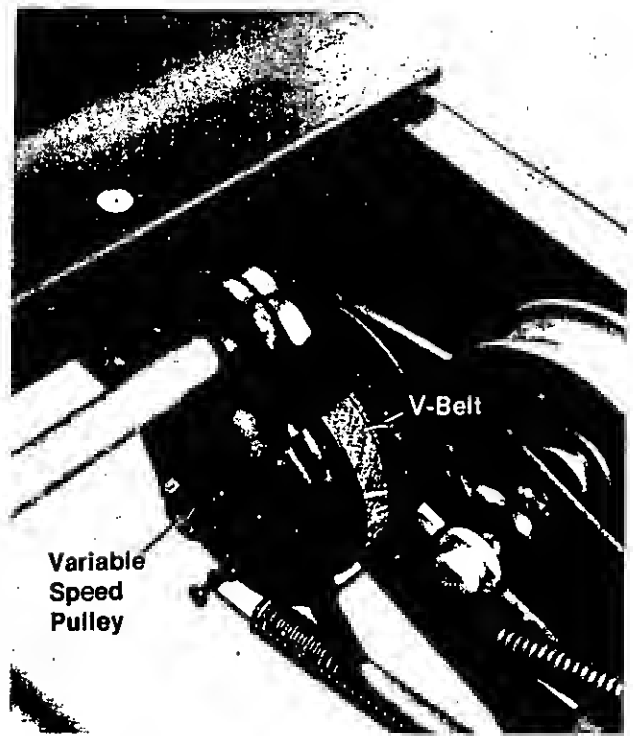

FIGURE 11.
3. Check to see if the V-belt from the engine to the variable speed pull is within 1/16" of being flush to the edge of the variable speed pulley. If the V-belt is too low in the variable speed pulley, work it by hand until it is as shown in figure 11.
The photograph in figure 11 was taken from the top for clarity. The variable speed pulley can be reached from under the tractor.